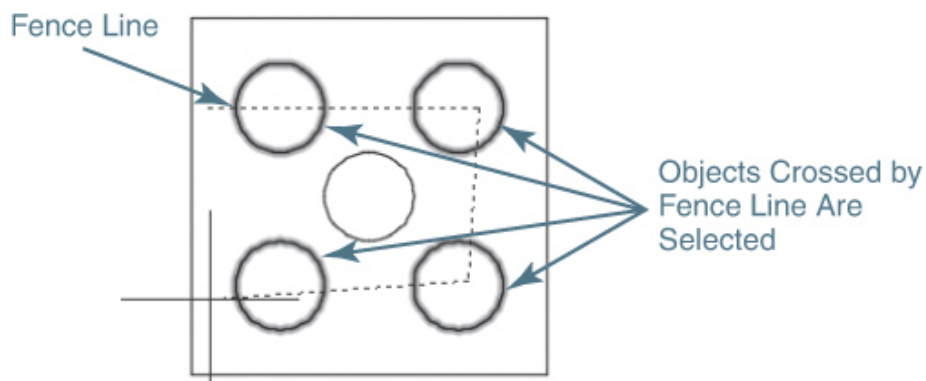

Figure 7-16
The **Fence** option allows you to define a multisegmented fence line that selects everything it crosses, similar to the **Crossing** option. When you enter the **F** option, AutoCAD prompts you for the first fence point and then prompts you for additional fence endpoints until you press **<Enter>** as shown in Figure 7-16.
- 4 Create a **Fence** selection similar to the one shown in Figure 7-16, and press **<Enter>** twice. The four circles at the corners of the square are erased.